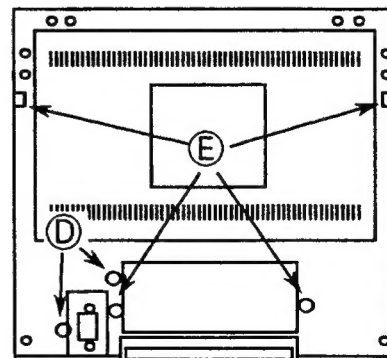

Fig. 2-2
- (1) Since the four positions (E) in Fig. 2-2 are hooked, align the hooks straight and let them move down.